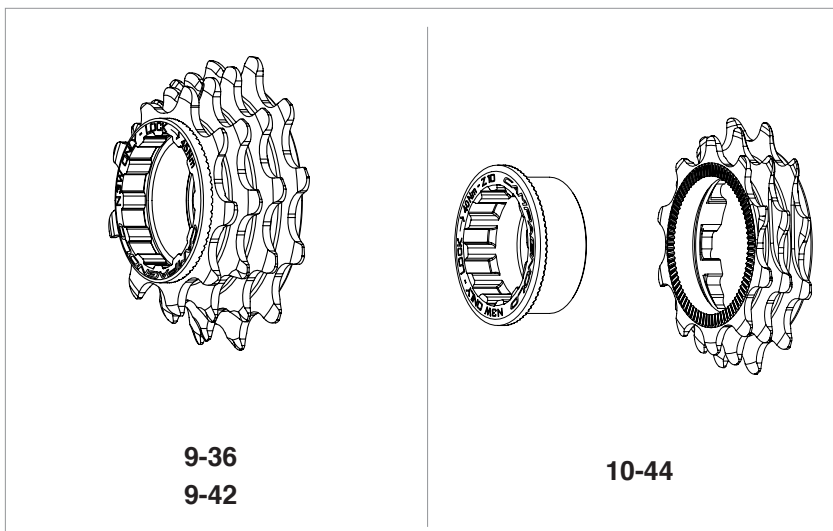

Fig.3
- Engage the smallest sprocket assembly with the FW body (Fig. 3).
For sprocket cassettes starting from Z9, the ring nut is built into the smallest sprocket assembly (Fig. 3).